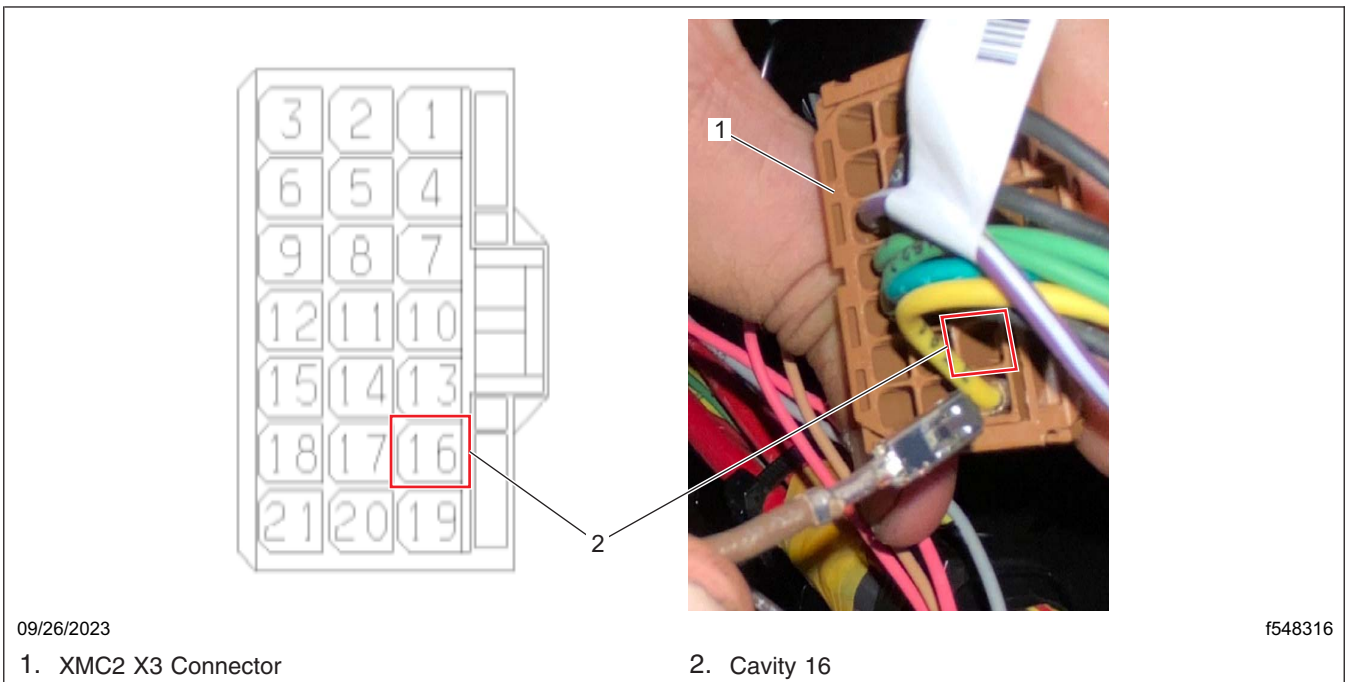

Fig. 47, Inserting the Brown Wire into Cavity 16
- 17.3 Insert the brown wire from the harness into the cavity 16 of X3 connector. See **Fig. 47**.